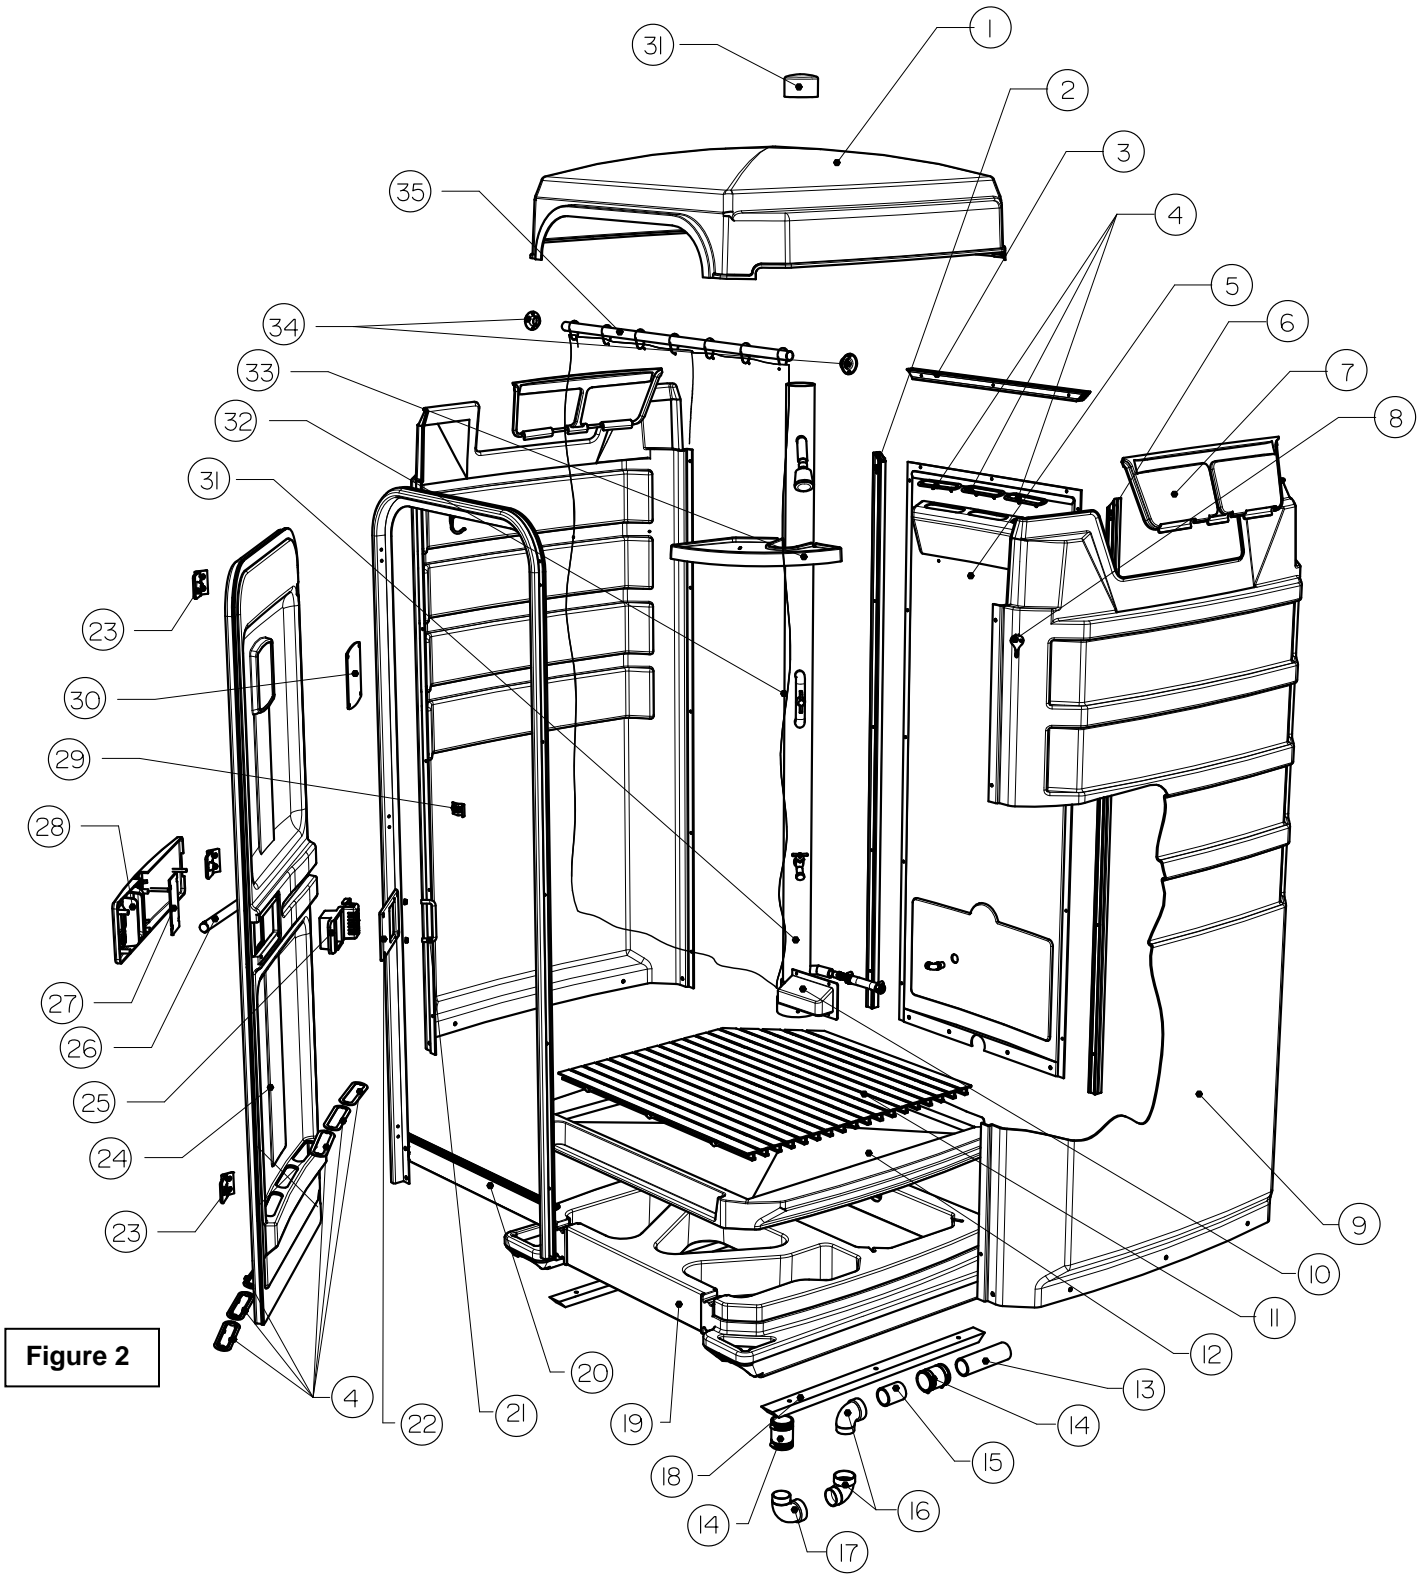

Figure 2
- All references to left, right, front and rear throughout the entire assembly instructions are shown in figure 2 exploded parts drawing and as viewed when looking at the front of the shower room from the outside.